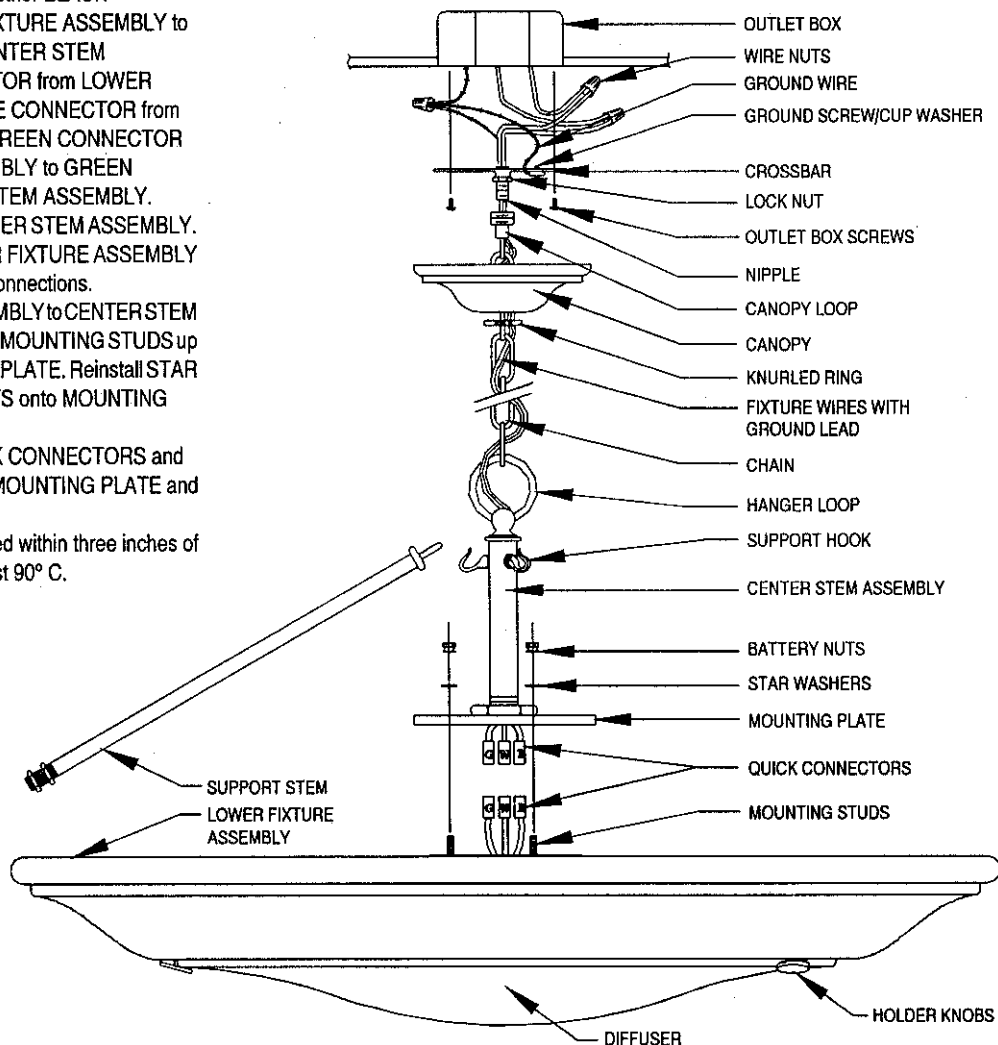

FIG. 1
2. From below fixture, push up on one side of the DIFFUSER and allow the opposite side to drop down passed HOLDER KNOB (Fig. 1).